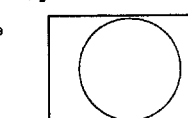

Fig. 37
- Zoom: Imitation of wide screen effect (16:9) for movies broadcast in cinemascopic format (See Fig. 37).